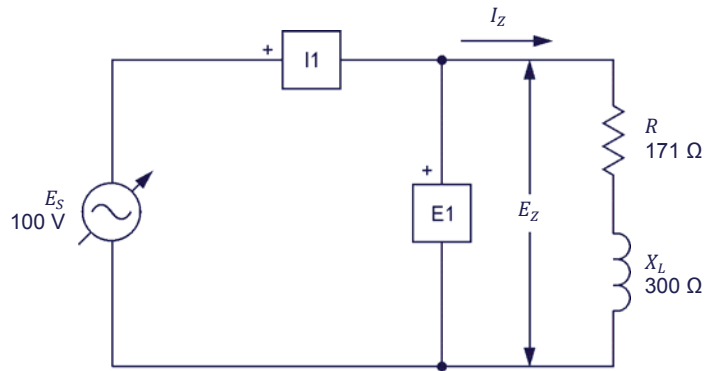

Figure 2-18. Series ac circuit containing a resistor and an inductor.
25. Set up the circuit shown in Figure 2-18.